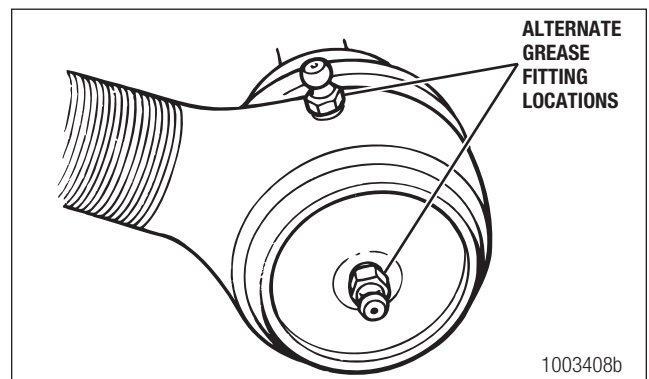

Figure 11.14
**If the tie rod ends are non-greaseable:** Do not install a grease fitting if the tie rod end is the non-greaseable type. Figure 11.14.